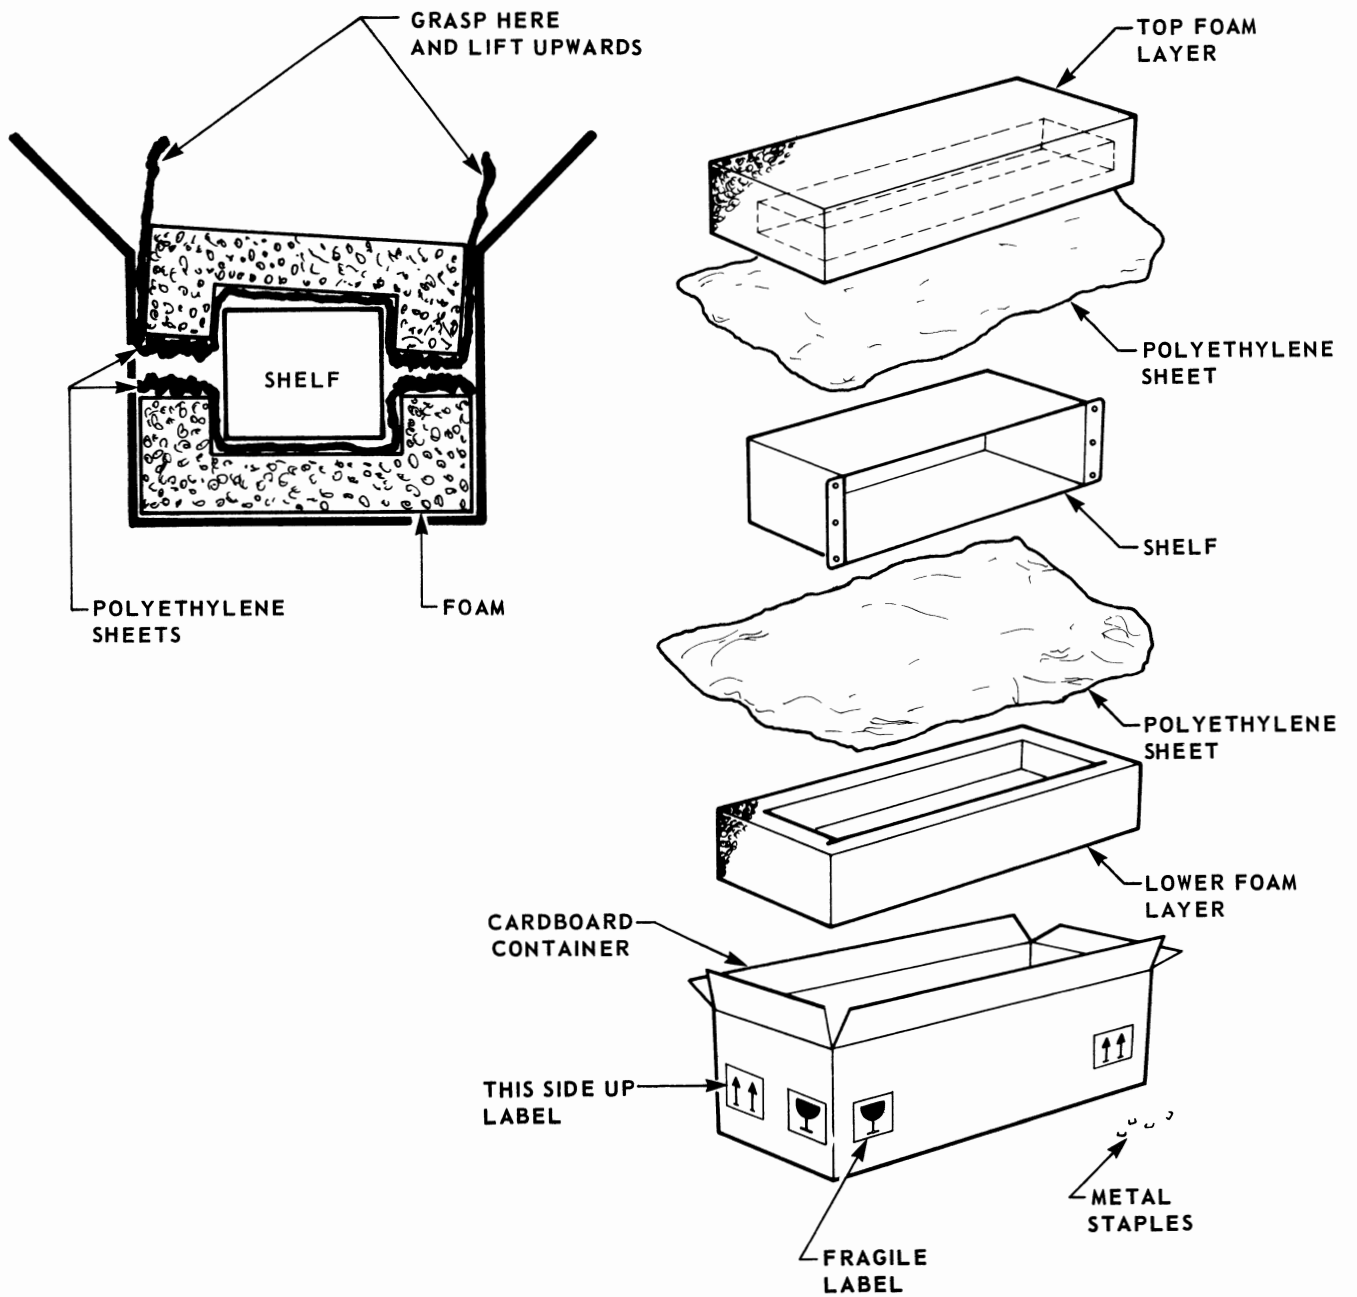
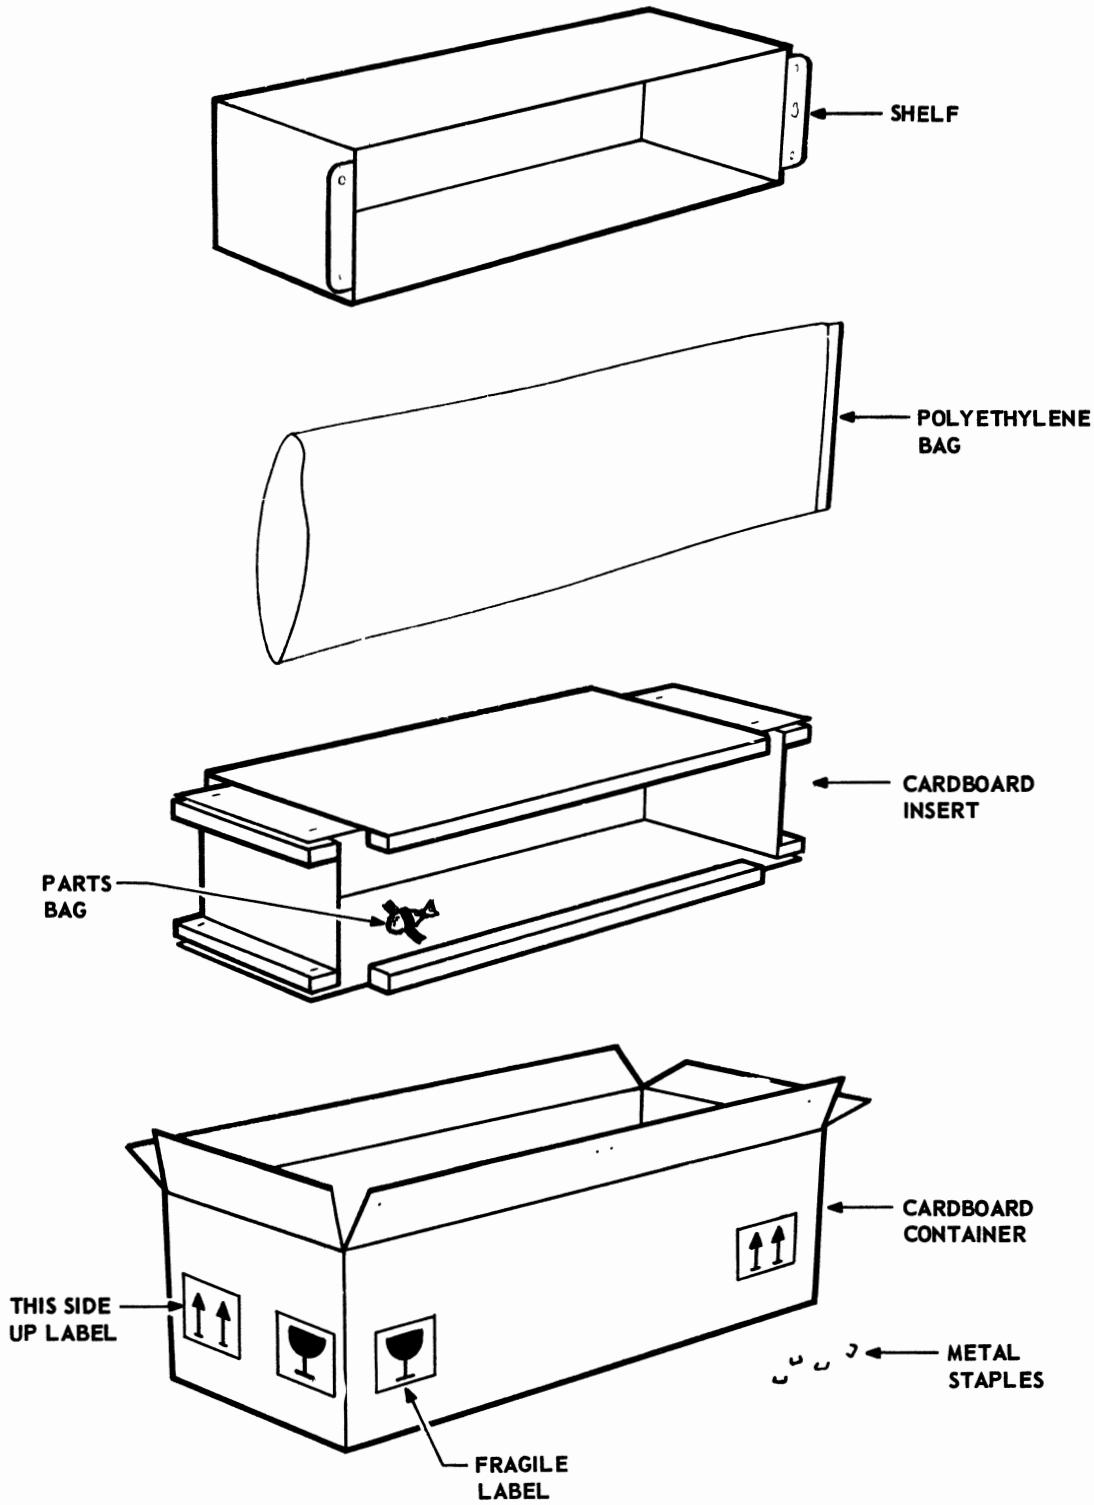

Fig. 1 – Placing and Removing a Shelf, Packed with Foam, from a Shipping Container
Fig. 2 – Placing and Removing a Line, Trunk, or Option Shelf, Packed with Cardboard, from a Shipping Container
4.02 Shelves are normally packaged in foam material as shown in Fig. 1. However, where foam-packing facilities are not available at the factory, the shelves are packed with cardboard inserts as shown in Fig. 2 and 3.
4.03 A shelf delivered as a single item and packed in foam material (Fig. 1) is unpacked as follows:
4.04 A shelf delivered as a single item and packed with cardboard (Fig. 2 and 3) is unpacked as follows: